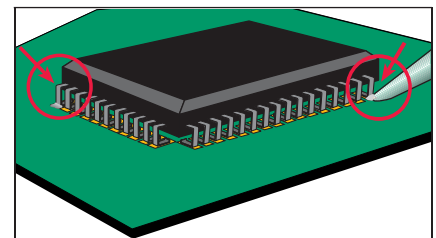

Figure 1 Solder at Corners
3. Align the component carefully and solder it to the board at diagonally opposite corners to fix it in place. (See Figure 1.)